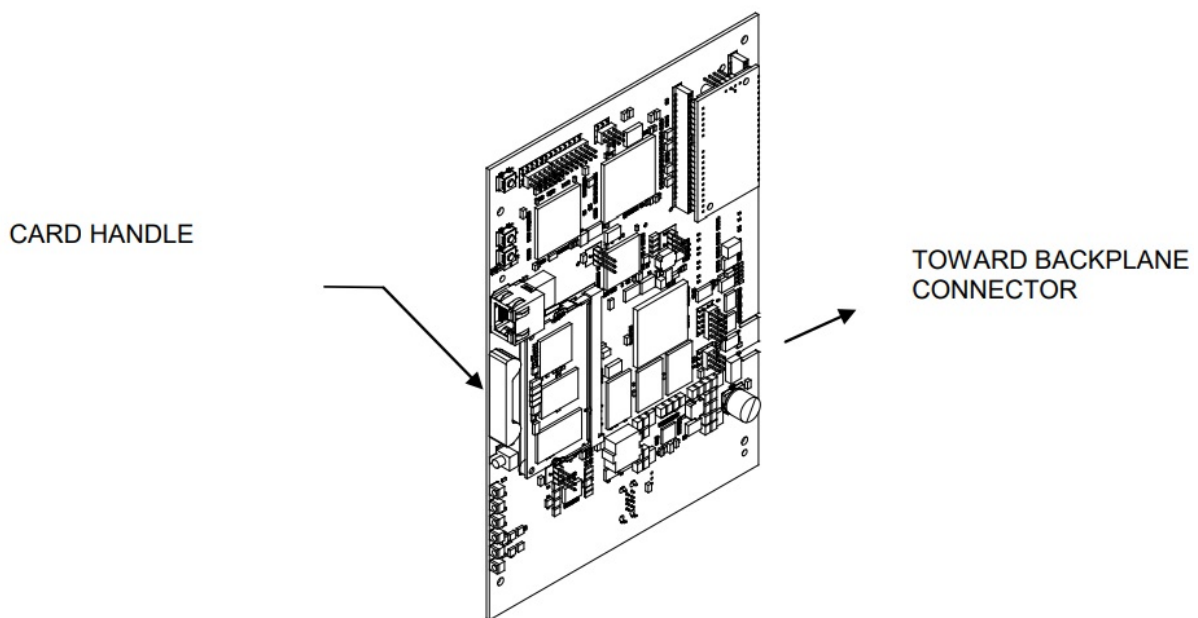

Figure 4
3. Orienting the VCC2001-A1 Voice CPU Card as shown in Figure 4, gently insert the card into the backplane connector marked X202. Use the raised channel guides on the inside top and bottom of the Card Cage to guide it into place.